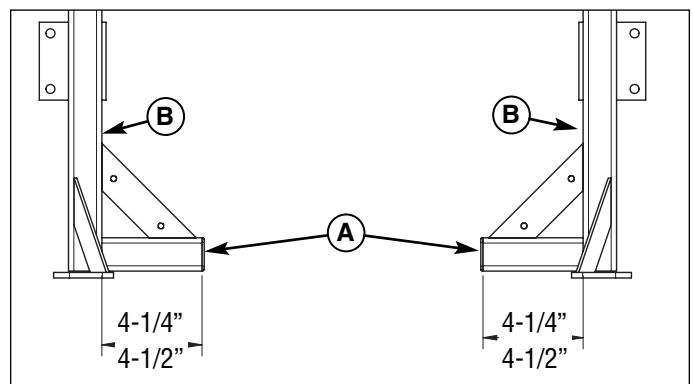

Figure 3. Cut Front Cross Member
6. Refer to Figure 3. Cut the front cross member (A) within 4-1/4" to 4-1/2" from the inside of the frame rail (B). NOTE: Keep the cut perpendicular to the top of the frame rail.